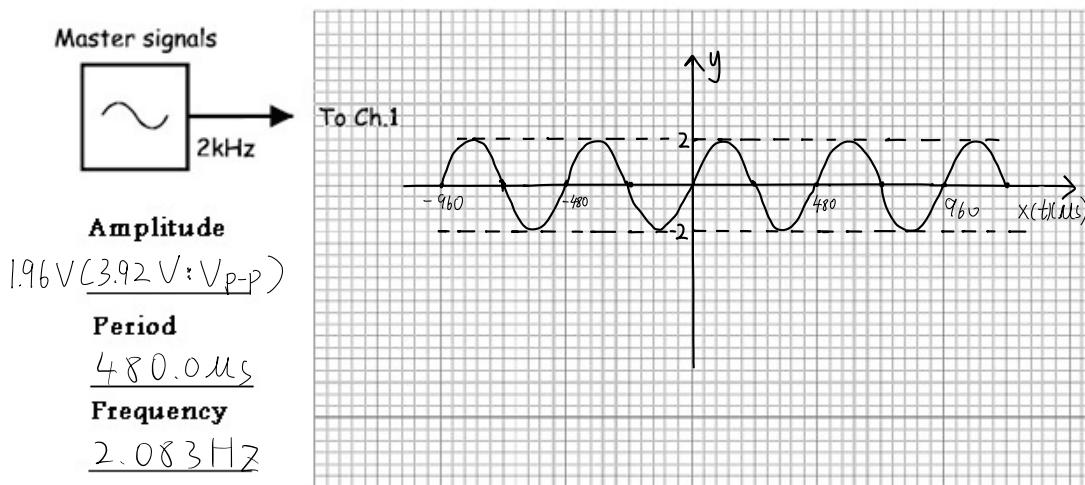

Figure 2: Master signal.
- Connect the master signal from the kit to the oscilloscope's Ch-1. Sketch Ch-1 output in the grid below (Figure 2), recording amplitude, period and frequency. [1 mark]